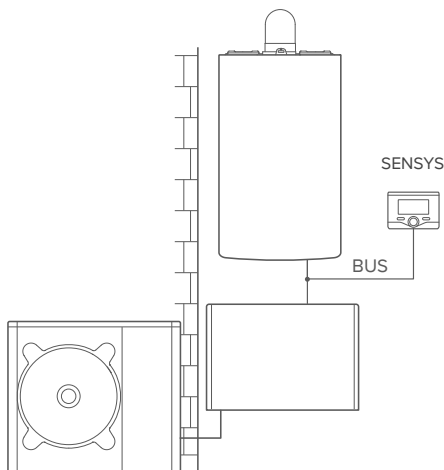

fig.7
### Activation of RD and RC in a basic hybrid system (Fig. 7)
1. Stick the double-sided tape to the back of the support plate (Figure 7); remove the protective film and attach to the boiler;